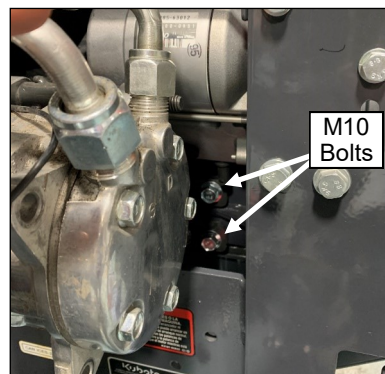

Fig. 6.2a (Secure Compressor with 2 Bolts in Rear)
- 6.2 Move compressor into location on the left side of the engine and secure the bracket with the hardware listed below as shown in figures 6.2a and 6.2b.